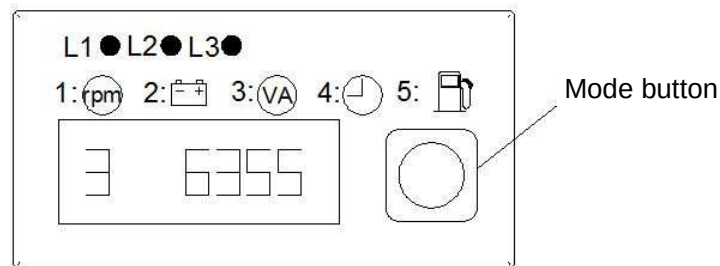

Figure 20
(2) Figure 20 is the display of generator power. When the mode button selects mode 3, the displayer shows generator power.